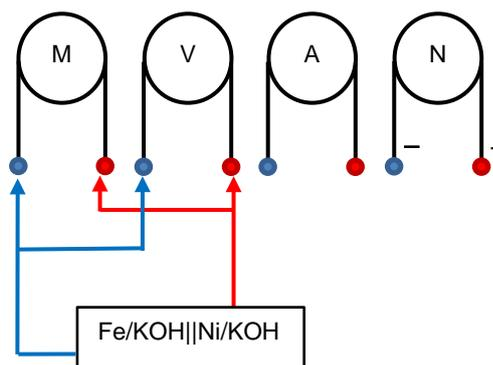

Fig. 4: Discharging circuit.
In the next step, connect the motor. Thus, connect each electrode to an outlet of the electric motor (17) (see Fig. 4). Now stop the time when the motor comes to a stop and the accumulator is discharged.